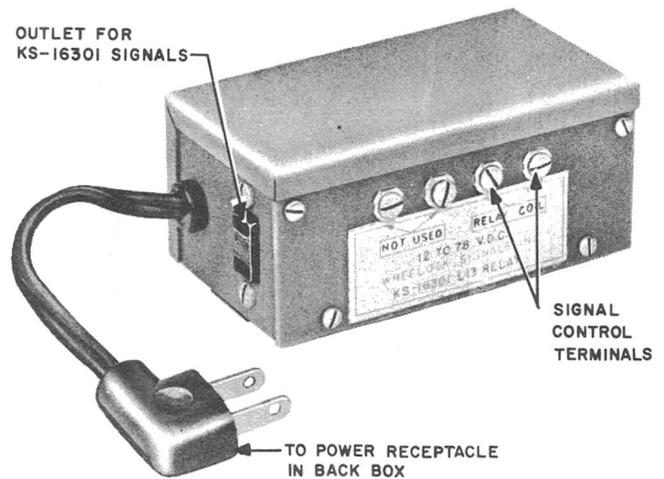

Fig. 11 - KS-16301, List 13 Relay
**3.10 List 13, Relay**, shown in Fig. 11, is designed to operate on 12 to 78 volts dc.